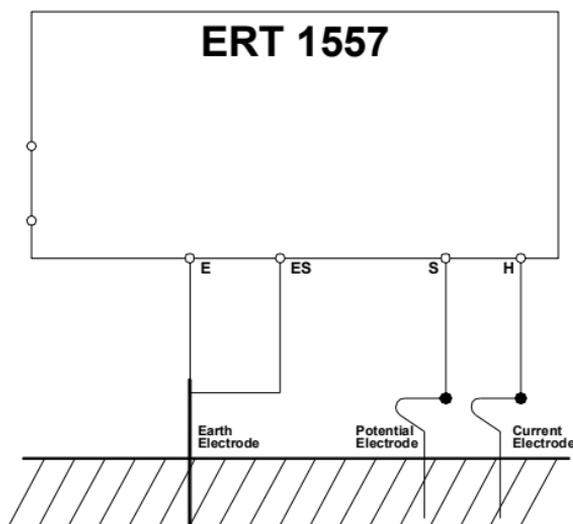

Figure 3
- 5.3.3 Connect the H and S test leads to the 2 test spikes as shown in figure 3.